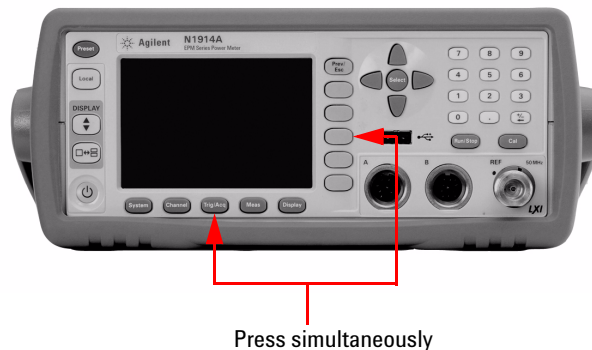

Figure 2-55 Activate memory erase using combo keys
- 1 Simultaneously press the fourth softkey from the top and the  key immediately upon power-on (see Figure 2-55).